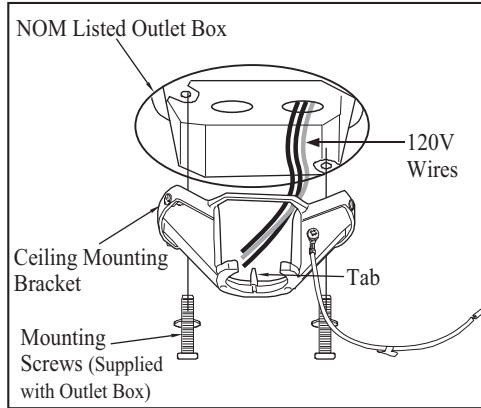

Figure 11
1. Pass the 120-volt supply wires through the center hole in the ceiling mounting bracket as shown in Figure 11.
2. Install the ceiling mounting bracket on the outlet box with the screws and washers provided with your outlet box (Figure 11). When using “close-to- ceiling” mounting, it is important that the mounting bracket be level. If necessary, use leveling washers (not included) between the mounting bracket and the outlet box. Note that the flat side of the mounting bracket is toward the outlet box. (Figure 11)